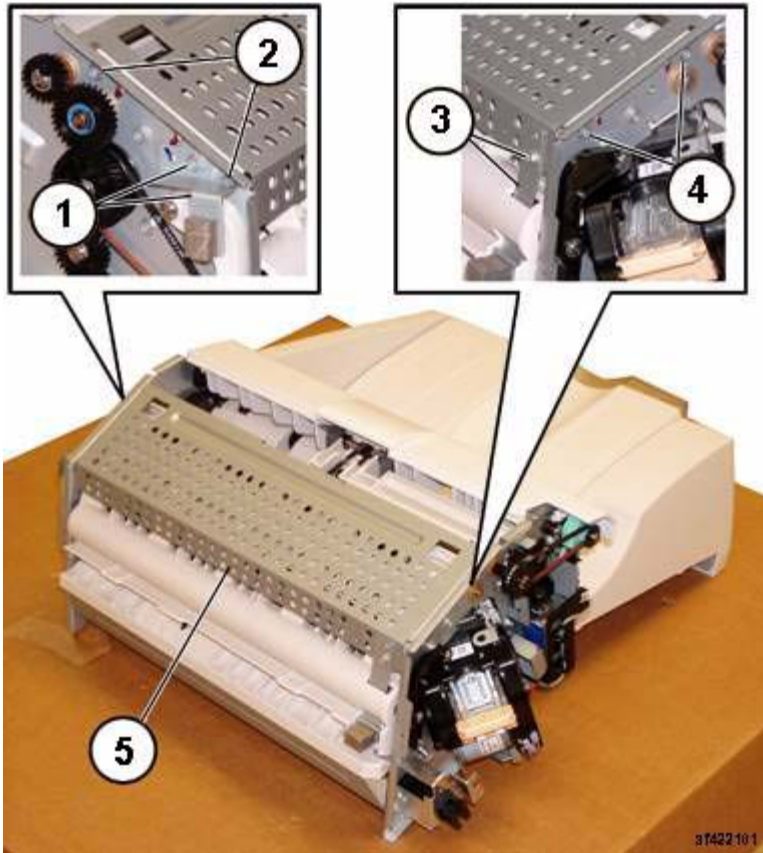

Figure 1 Removing the Upper Frame Section
- 7. Remove the Upper Frame Section (Figure 1):